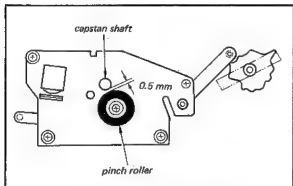

Fig. 4-25. Capstan deck adjustment
2. Set the Function Lever to **PAUSE**. Make sure that the clearance between the Capstan Shaft and the Pinch Roller is more than 0.5 mm. See Fig. 4-25. If necessary, recheck Step 1.